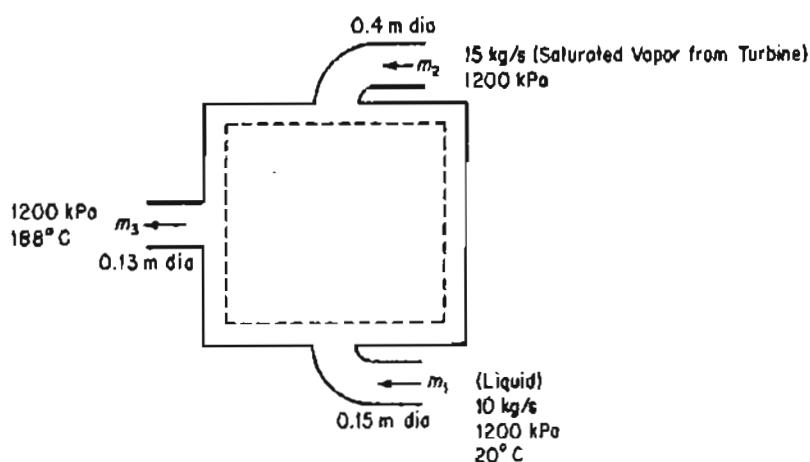

Figure P24.31
- ✓**24.31 Feedwater heaters are used to increase the efficiency of steam power plants. A particular heater is used to preheat 10 kg/s of boiler feed water from 20°C to 188°C at a pressure of 1200 kPa by mixing it with saturated steam bled from a turbine at 1200 kPa and 188°C, as shown in Figure P24.31. Although insulated, the heater loses heat at the rate of 50 J per gram of exiting mixture. What fraction of the exit stream is steam?